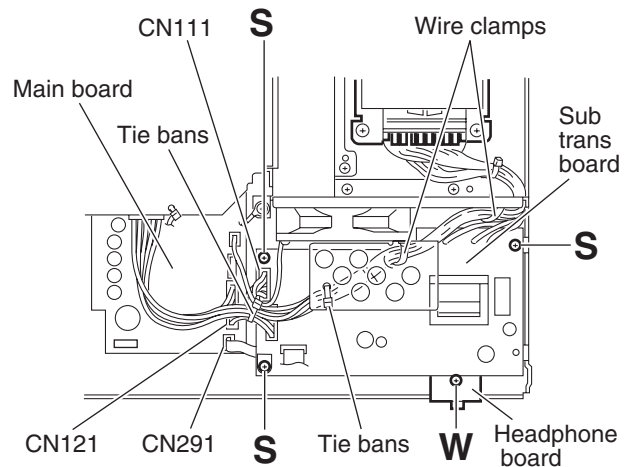

Fig.20
- (1) From the top side of the main body, remove the tie bands and wire clamps bundling the wires. (See Fig.20.)
- (2) Disconnect the wire from the connector CN121 on the main board. (See Fig.20.)
- (3) Disconnect the wires from the connector CN111 on the sub trans. board. (See Fig.20.)
### 3.1.18 Removing the headphone board (See Fig.20)